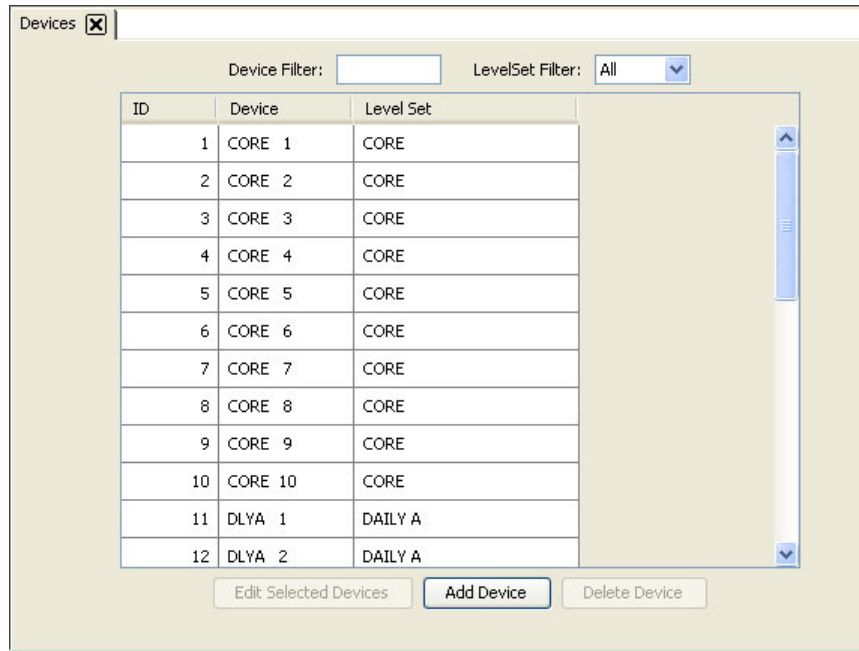

Figure 9-8. Devices Page
- 1 From the Navigation area, select the 'Configuration' pane and then 'Devices'. The 'Devices' page displays, as shown in Figure 9-8.